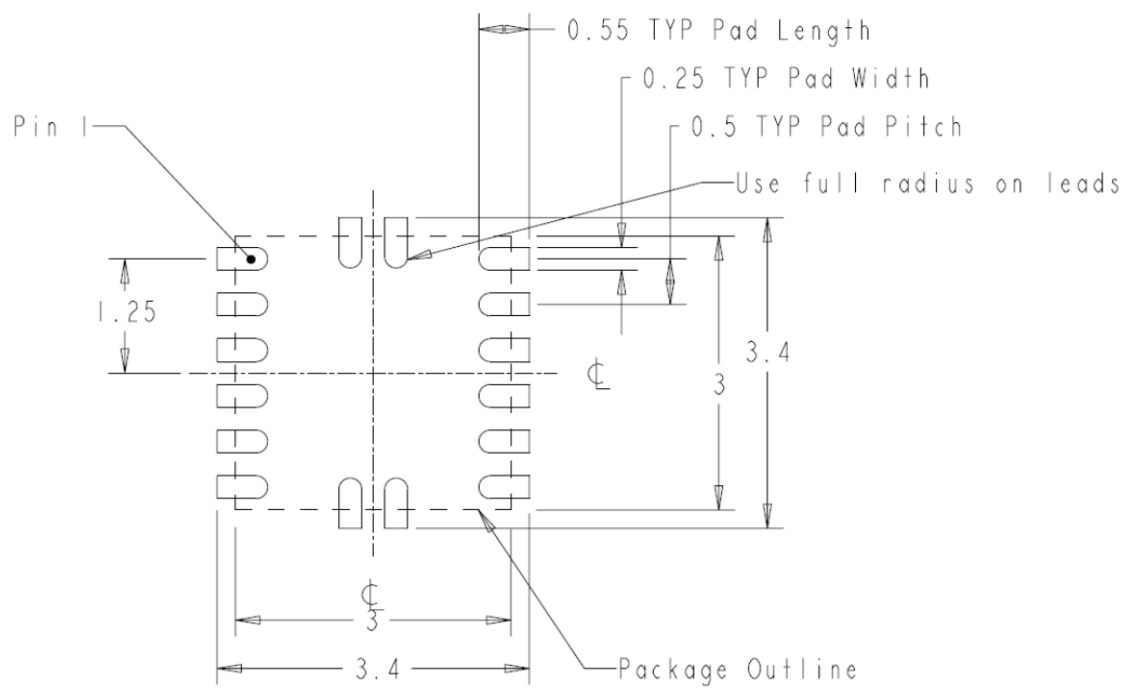

**Figure 7: Top PCB Layer Critical Components and Copper for Minimum Footprint**
Figure 7 shows critical components and layer 1 traces of a recommended minimum footprint EP53F8LQI/EP53F8HQI layout with ENABLE tied to  $V_{IN}$ . Alternate ENABLE configurations, and other small signal pins need to be connected and routed according to specific customer application. Please see the Gerber files on the Altera website [www.altera.com/enpirion](http://www.altera.com/enpirion) for exact dimensions and other layers. Please refer to Figure 7 while reading the layout recommendations in this section.
**Recommendation 2:** Input and output grounds are separated until they connect at the PGND pins. The separation shown on Figure 7 between the input and output GND circuits helps minimize noise coupling between the converter input and output switching loops.
**Recommendation 4:** Multiple small vias should be used to connect the ground traces under the device to the system ground plane on another layer for heat dissipation. The drill diameter of the vias should be 0.33mm, and the vias must have at least 1 oz. copper plating on the inside wall, making the finished hole size around 0.20-0.26mm. Do not use thermal reliefs or spokes to connect the vias to the ground plane. It is preferred to put these vias under the capacitors along the edge of the GND copper closest to the +V copper. Please see Figure 7. These vias connect the input/output filter capacitors to the GND plane and help reduce parasitic inductances in the input and output current loops. If the vias cannot be placed under  $C_{IN}$  and  $C_{OUT}$ , then put them just outside the capacitors along the GND. Do not use thermal reliefs or spokes to connect these vias to the ground plane.
**Recommendation 5:** AVIN is the power supply for the internal small-signal control circuits. It should be connected to the input voltage at a quiet point. In Figure 7 this connection is made with RAVIN at the input capacitor close to the  $V_{IN}$  connection.